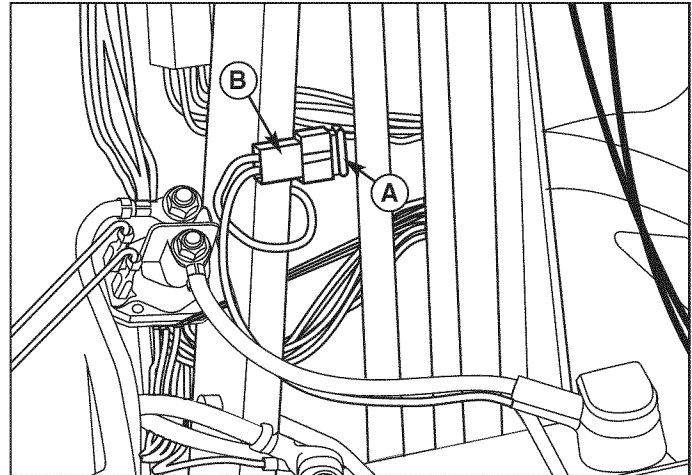
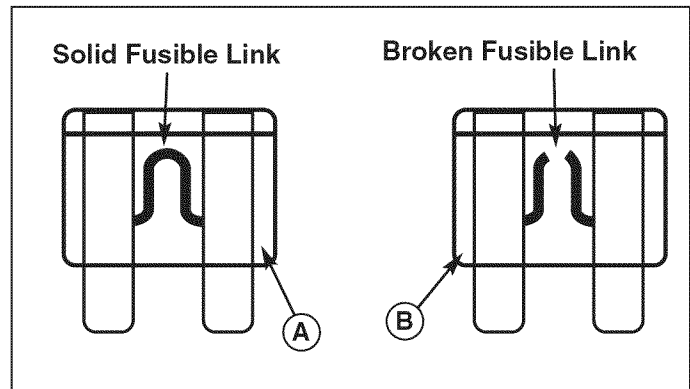

Figure 36. Fuse
Figure 37. Blade Type Fuse
1. Open the hood and locate the fuse holder (B, Figure 36) and fuse (A). Attached to the steering tower.
2. Hold the fuse holder (B) and pull out the fuse (A).
3. Inspect the fuse for a broken fusible link. See figure 37. Replace fuse if connection is broken. If you are not sure if the fusible link is broken replace fuse.
4. Hold the fuse holder (B, Figure 36) and insert new fuse (A) until it is seated properly.